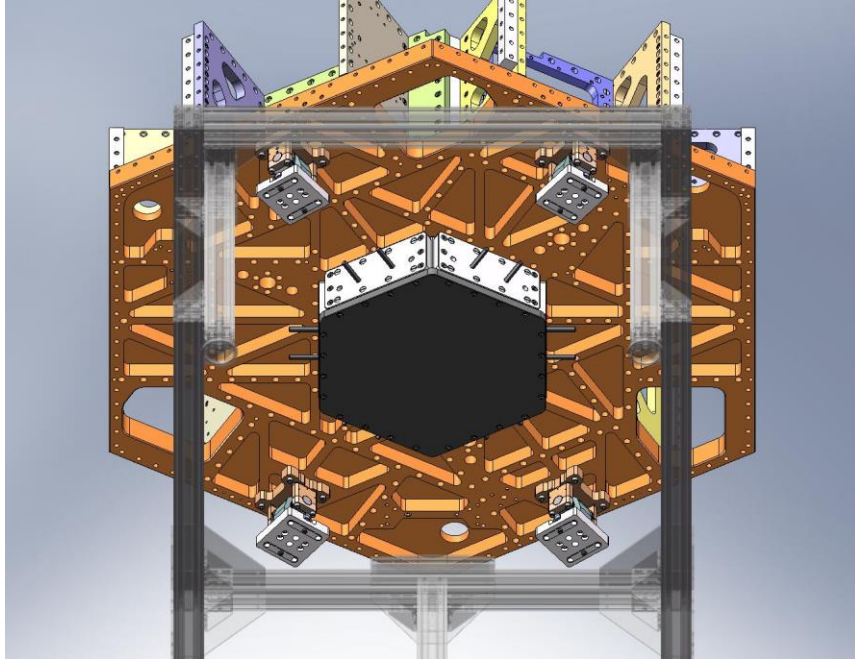

Figure 3.61. Locker Assemblies bolted to bottom of Stage 1 Floor. Knob ends of Locker Sleeves must face outward.
- Incrementally torque all (24) screws for the **Keel Base** to final spec. This completes the **Keel Assembly** (D071424).
3.19 Mount (4) Locker Assemblies underneath Stage 1
- Lift each **Locker Assembly** up against the bottom of the **Stage 1 Floor**, as shown in Figure 3.61. Make sure that pins seat properly in mating holes and slots. *Orientation is important: the knob end of the **Locker Sleeves** should face outward, to provide access for locking/unlocking.* Start screws into the **Floor**. Snug all (4) screws on each unit, then torque to final spec.